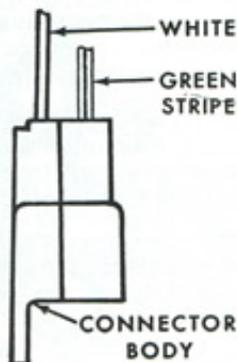

Figure 8—Location of distributor leads in connector body.
1. Insure that the two distributor leads are connected to the connector body as shown in Figure 8.